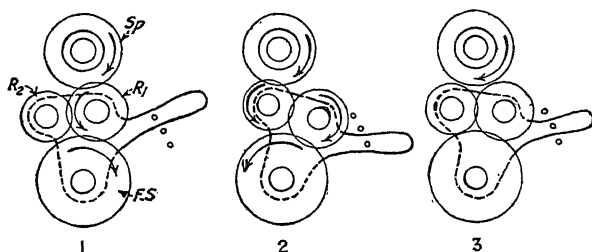

Fig. 181.—Illustrates operation of reverse gears or tumbler gears.
The two tumbler gears are intermediate gears between the spindle gear and the fixed stud gear and are so mounted on a bracket as to make it possible for the operator to have one intermediate or two intermediates in mesh between the driving and driven gears or to throw them both out of mesh with the driving gear. That is, with the three positions of the handle as shown (Fig. 181), the lathe hand may have (1) forward movement, (2) reverse, (3) neutral or no motion of the stud shaft.